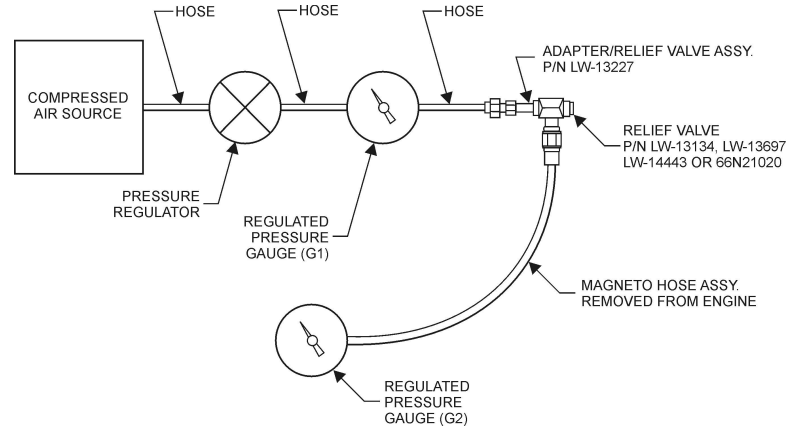
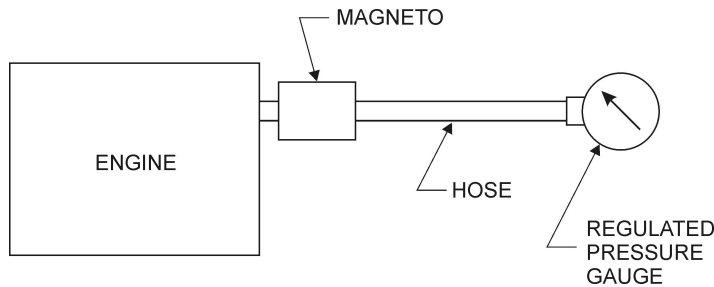

Figure 2. Alternate Connections for Relief Valve and System Check
Figure 3. Alternate Relief Valve and System Check for TIO-540 Series Engines
A relief valve and system check can be performed with either the model 11-10090 Air Flow Tester with the setup shown in Figure 2, or with the alternate setup as shown in Figure 3. See Table 1 for applicability. The parts needed for the setup in Figure 2 are one pressurized regulator and two regulated pressure gauges which will read from one (1) to ten (10) psi. The two gauges must be able to be read in ¼ psi increments. The part needed for the setup in Figure 3 is one regulated pressure gauge which will read from one (1) to ten (10) psi. The gauge must be able to be read in ¼ psi increments.
Figure 2 Setup: Connect the compressed air source, the pressurized regulator, the two regulated pressure gauges, the magneto hose, the adapter P/N LW-13227 and relief valve as shown in Figure 2.